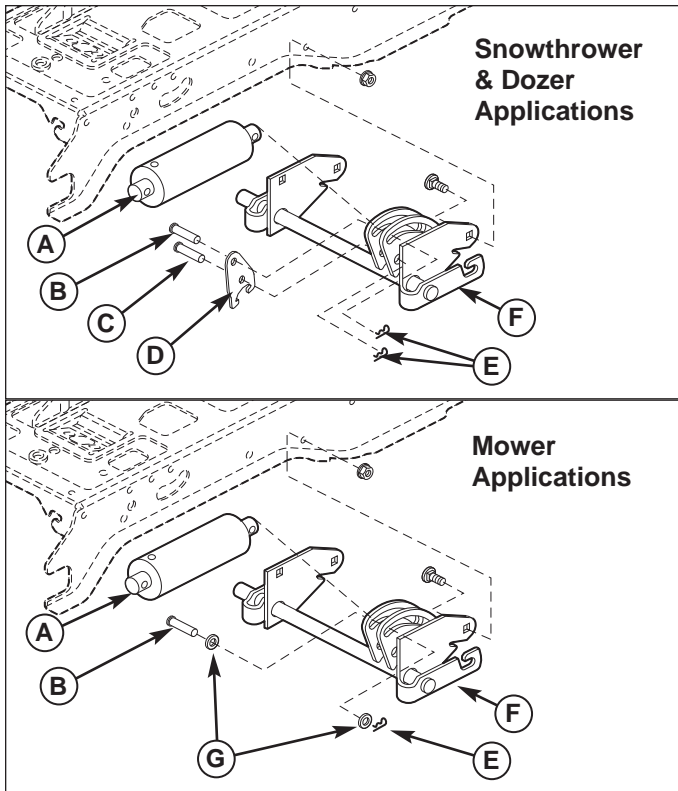

Figure 11. Lift Lock Plate - Hydraulic Lift Models
When using a snowthrower or dozer, the downward pressure lock plate (D, Figure 11) and an additional pin (C) is installed. These parts are included with the attachment. Note that the washers (G) are not used with the lock plate.